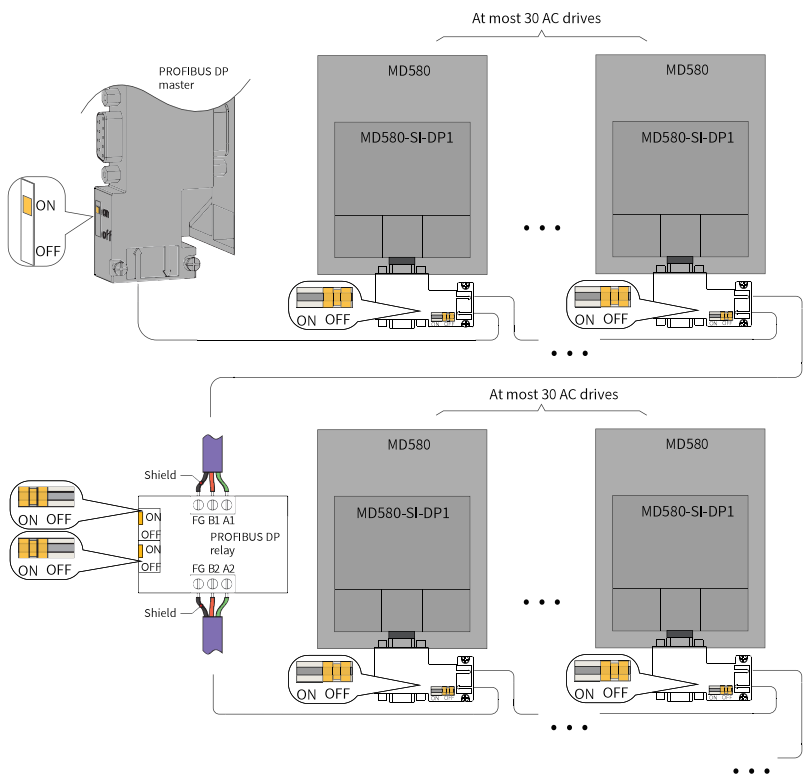

Figure 5-34 Connection of the multi-device system with repeaters
- For the multi-device system without repeaters, termination resistors need to be connected to the first and last AC drives, and the termination resistor of the repeater also needs to be connected, as shown in *"Figure 5-34 Connection of the multi-device system with repeaters" on page 76.*